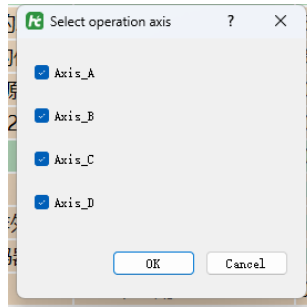

Figure2-16
- Click the Restore Factory Defaults button to reset the parameters of the selected axis group on the current servo drive to their original factory settings. A sequence of confirmation dialogs, as shown in Figures 2-16, 2-17, and 2-18, will appear one after another.